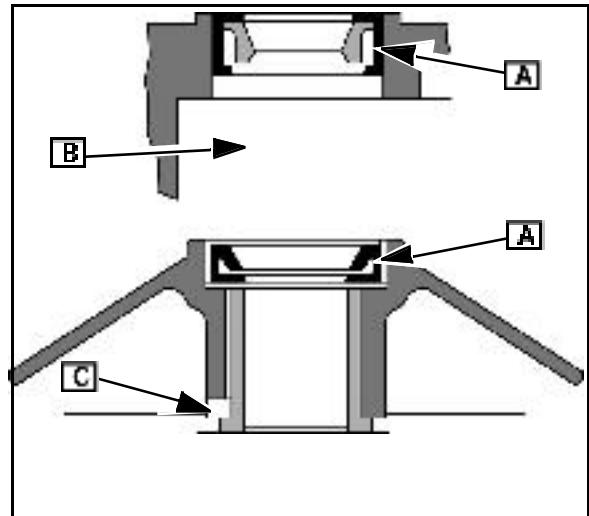

Fig. 26
Install seals with sealing lip (A) toward engine side of gear case (B) or cover (C) Fig. 26). Press until seal is flush with case or cover.